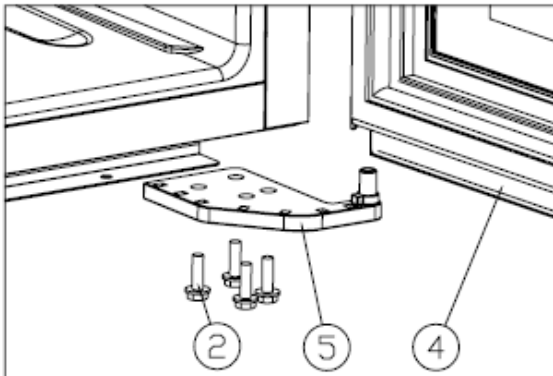

Figure 2
- ✧ Unscrew the M5\*16 screws ②, dismantle the right lower hinge ⑤. [Figure 2]